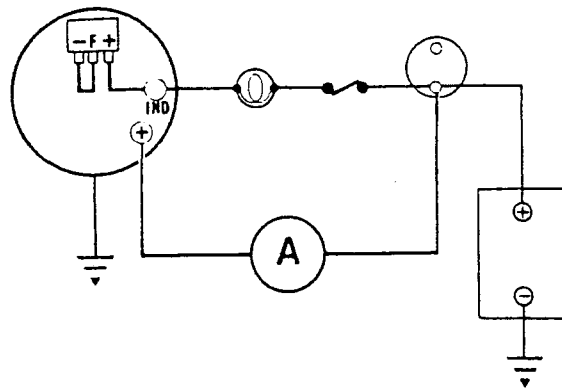

Fig. 79 Checking alternator maximum output
- Connect an ammeter between the starter solenoid terminal and the alternator main output cable. Fig. 79.